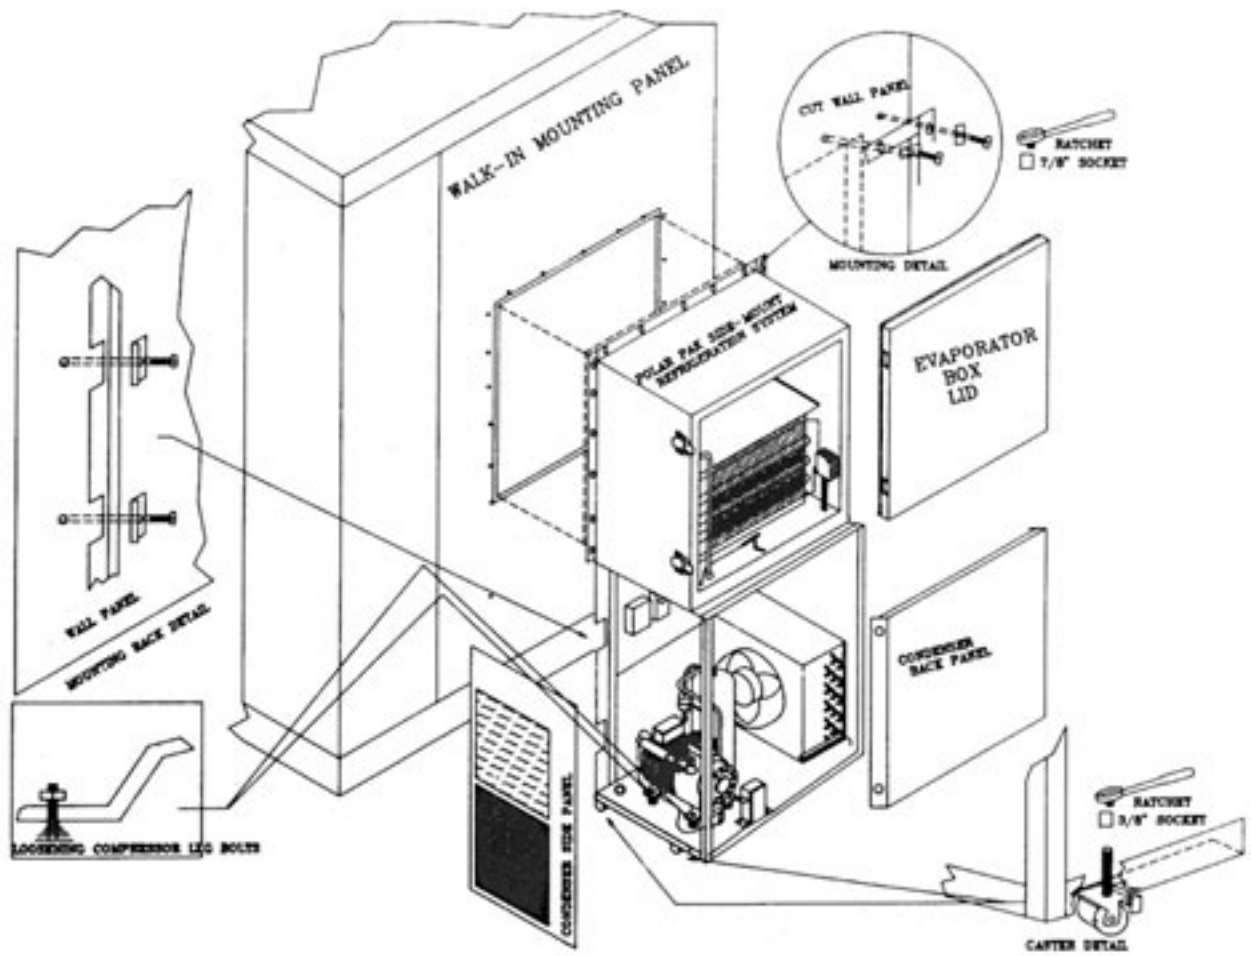

Figure 6: Mounting Illustration for Polar-Pak Side Mount Refrigeration Systems
- After the correct alignment is obtained, push the unit forward in the mounting hole until the mounting brackets rest against the panel. The front legs of the support rack are fitted with stops and four mounting slots. Secure the unit to the panel using the square washers and the mounting bolts provided. Make sure all the holes are engaged. Tighten the mounting bolts and the leg bolts sequentially to obtain tight fit between the front of the unit and the walk-in molding. This is manifested by the gasket material being evenly compressed to 1/8" thickness and the front leg "stops" resting against the mounting panel surface. Consult Fig. 6 for mounting illustrations.